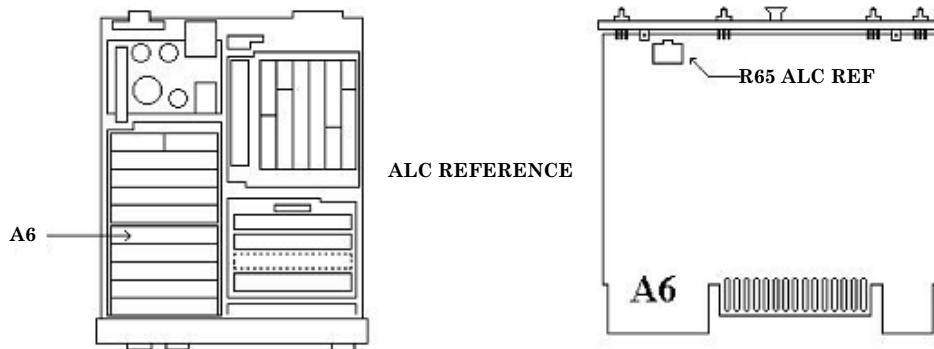

Figure 3. A6 board.
- (11) Adjust A6R65 ALC REF (fig. 3) for a display between 2.0970 and 2.1030 (R).
- (12) Disconnect TI sensor module from TI **CALIBRATION RF POWER OUTPUT**.
- (13) Connect TI sensor module to AM/FM test source **FM OUTPUT**.
- (14) Connect calibrator **WIDEBAND** output to AM/FM test source **AUDIO INPUT** using cable and termination supplied with calibrator.
- (15) Set calibrator for a wideband output of 100 kHz at an amplitude of 500 mV.